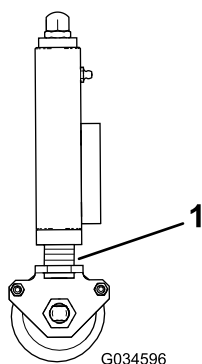

**Figure 31**
2. Turn the adjusting-nut assembly on both ends clockwise to decrease the height of cut or counter-clockwise to increase the height of cut (Figure 31).